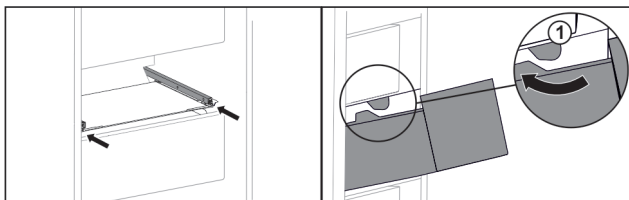

Fig. 38
- ▶ Guide drawer around the stoppers Fig. 38 (1).